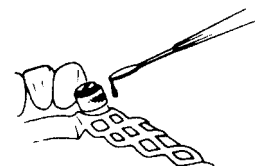

Fig. 16
9. Connect the retention sleeve to the cast frame with self-curing resin (Fig. 16).